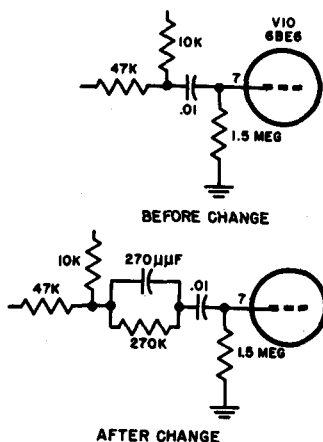

Fig. 12 — Arvin
**Horizontal wavering at top of picture (see Fig. 12).**